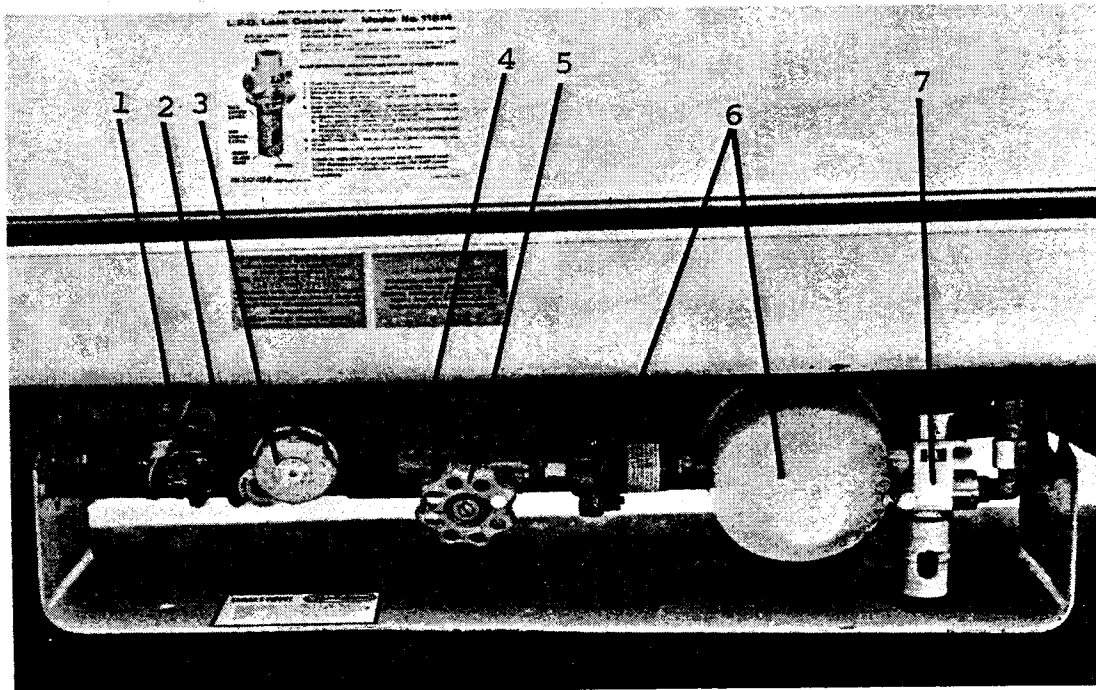

Figure 7-1. LP-Gas Controls
Figure 7-1 shows the LP gas tank and locates the four operation valves. The fill valve (3) is used when filling the tank. The 20% valve (2) indicates when the tank is 80% full. The service outlet valve (5) controls the flow of gas to the regulator. The safety relief valve (4) is a safety feature used to discharge any excess fuel pressure within the tank. The level gauge (1) indicates the liquid level in the tank.